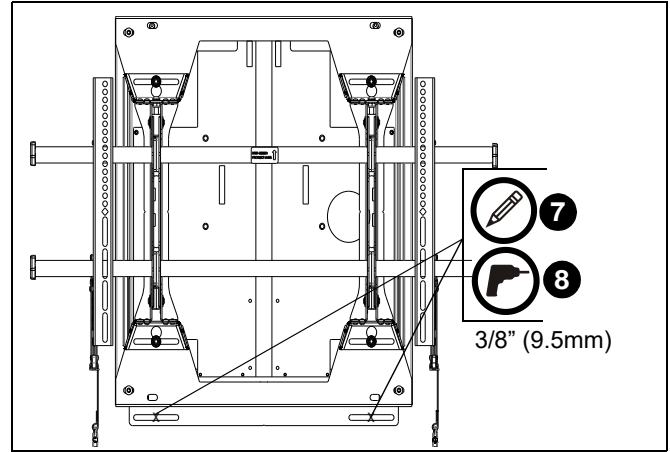

Figure 7
7. Mark hole locations for lower two mounting holes. (See Figure 7)
8. Drill two 3/8" holes at marked hole locations. (See Figure 7)